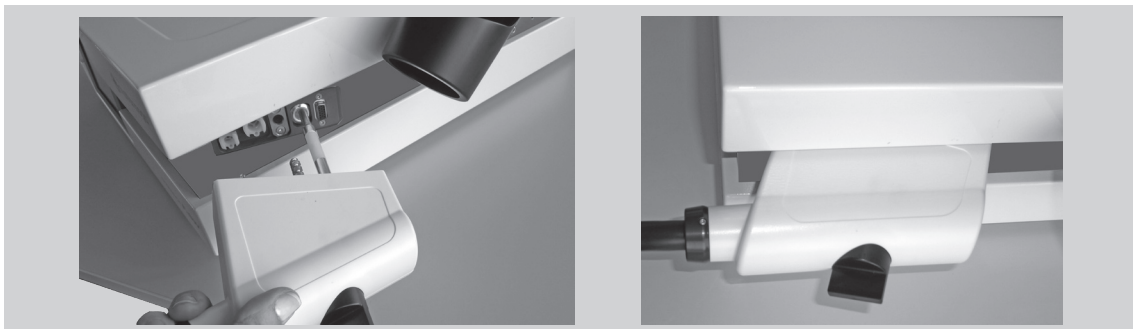

Fig.2-4 Connecting the F-SW handpiece
- Connect the connector of the F-SW handpiece (Fig.2-4) to the handpiece connection provided on the Chattanooga Intellect F-SW USA and secure it using the black locking screw. The locking screw must be tightened up to the stop until finger-tight.